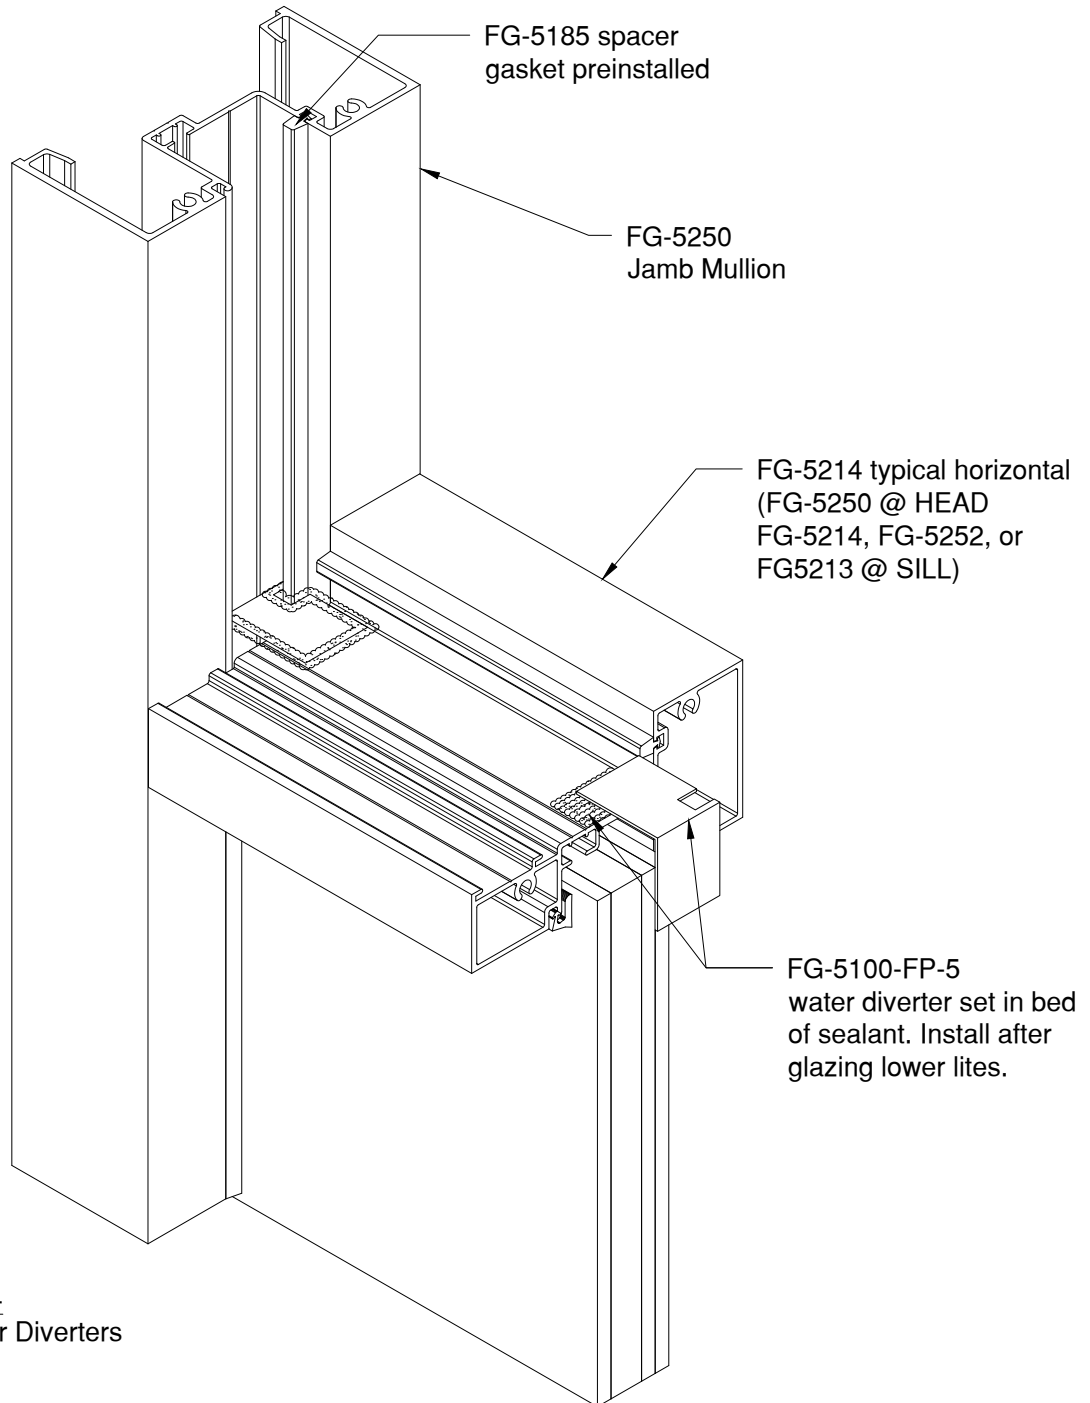

Figure 14
- 4.1.2 Install water diverters see Figure 14 after lower lite is in position.